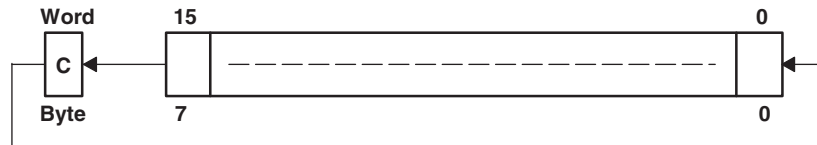

Figure 5-39. Destination Operand—Carry Left Shift
Description The destination operand is shifted left one position as shown in Figure 5-39. The carry bit (C) is shifted into the LSB, and the MSB is shifted into the carry bit (C).